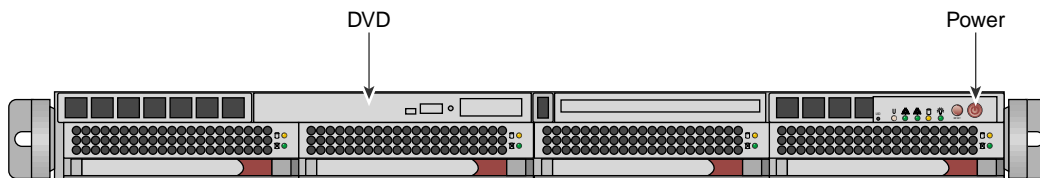

Figure 1-5 System Management Node Power On Button and DVD Drive
1. Turn on, reset, or reboot the SMN. The power on button is on the right of the SMN, as shown in Figure 1-5 on page 12.
2. Insert the SLES 11 Service Pack 1 DVD in the DVD drive on the left of the SMN as shown in Figure 1-5 on page 12.